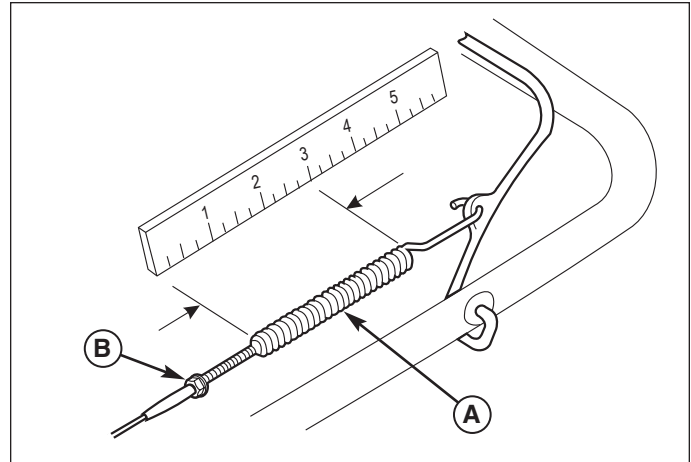

Figure 4. Auger Cable Adjustment - Disengaged
2. With the auger control disengaged, measure the length of the cable spring (A, Figure 4).
4. Loosen the jam nut (B, Figure 4) at the upper end of the cable. Hold the threaded end of the cable and turn the cable clockwise until the desired extension is achieved. Retighten the jam nut and repeat steps 2-3.